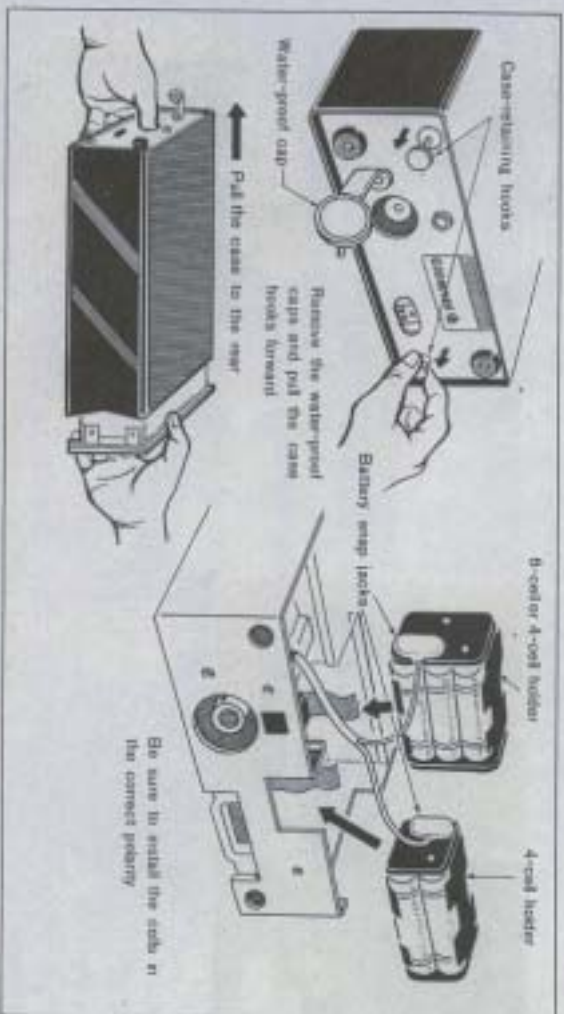

Fig. 4 Battery Installation
1. Pull the case holding snaps at the bottom of the transceiver casing to expose the battery holders (Fig. 4).
3. Hook the battery snap connectors on the battery holders and return them into the transceiver casing, as illustrated in Fig. 4. Push the case holding snaps to the fixing positions.